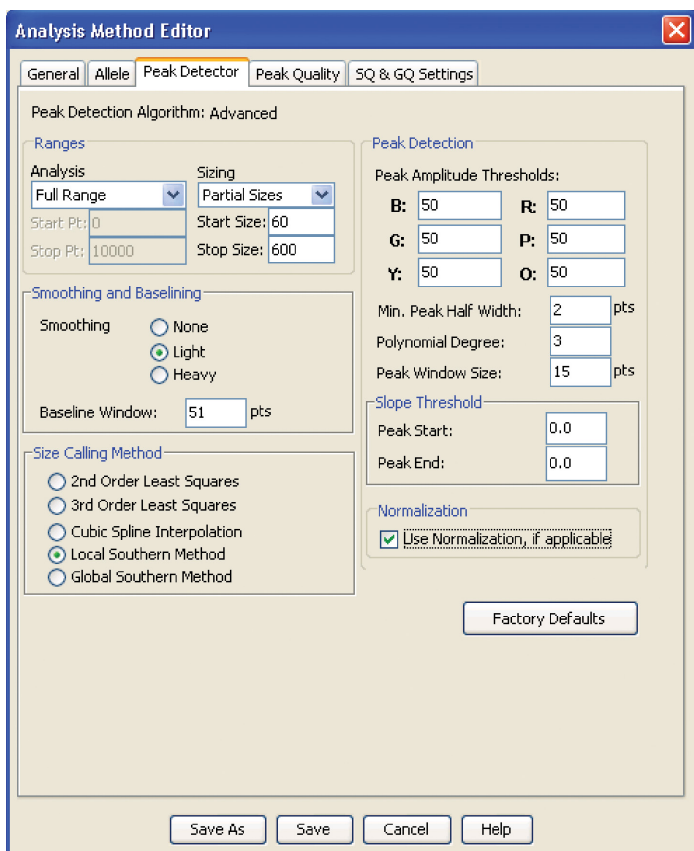

Figure 13. The GeneMapper® ID-X 'Peak Detector' tab.
10. Select the ‘Peak Detector’ tab. Figure 13 shows an example of settings used at Promega. You may need to optimize these settings. In-house validation should be performed.
9. Select the 'Peak Detector' tab. Figure 13 shows an example of settings used at Promega. You may need to optimize these settings. In-house validation should be performed.